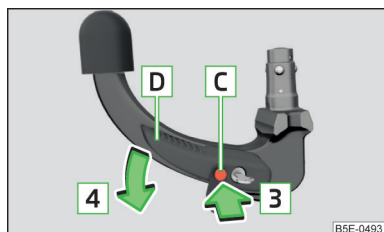

Fig. 168
- Push release pin **C** in the direction of arrow **3** to the stop, and simultaneously push operating lever **D** in the direction of arrow **4** to the stop » Fig. 168.